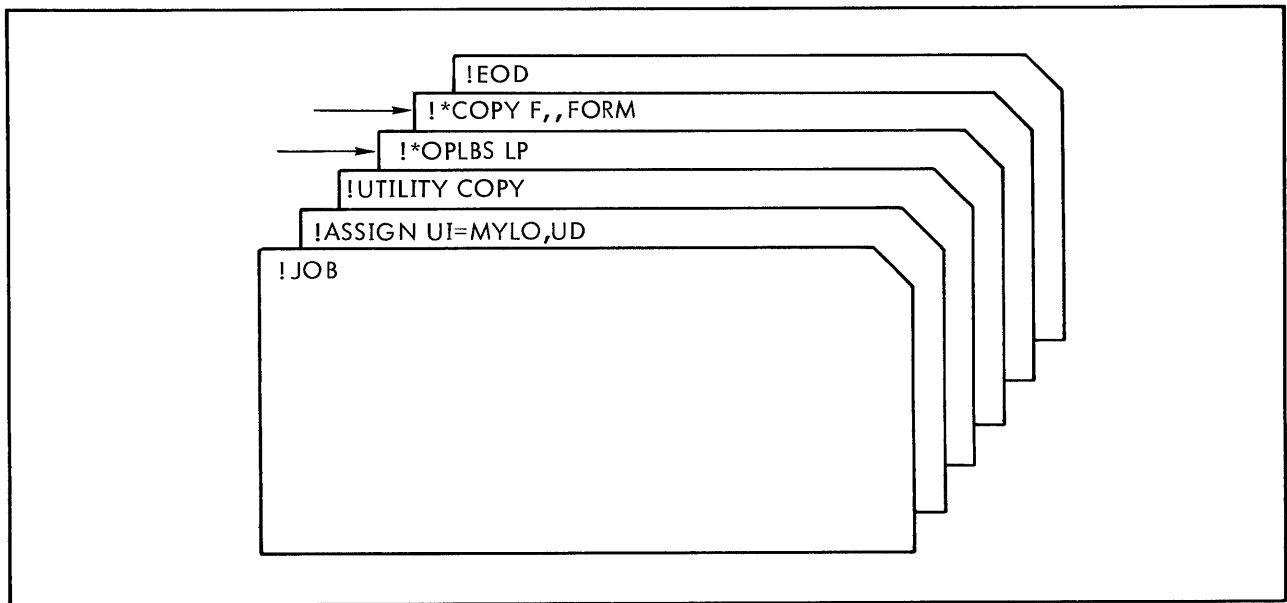

Figure 36. Copy LO File to Line Printer
An example of how to copy the listing output from either an assembly or compilation to the line-printer is given in Figure 36. The input (UI) could be read in from a magnetic tape or compressed RAD file.